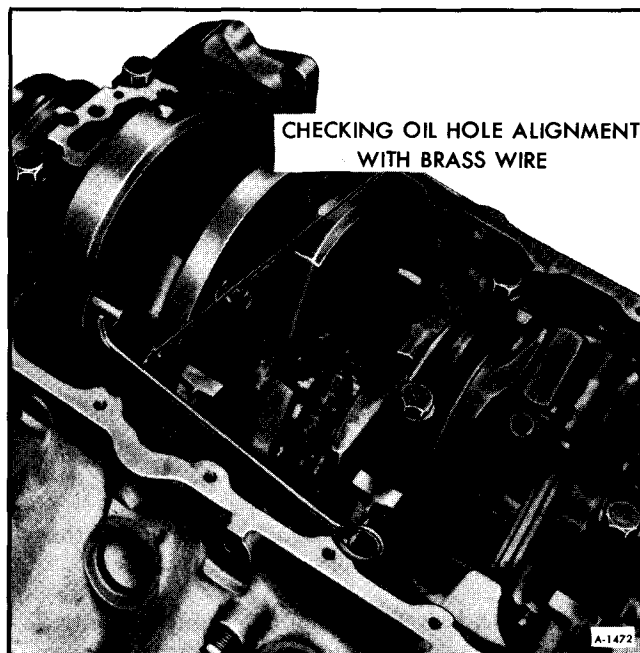

Figure 66—Checking Oil Hole Alignment
2. Drive No. 5 camshaft bearing into place and check oil hole alignment as shown in Figure 66.